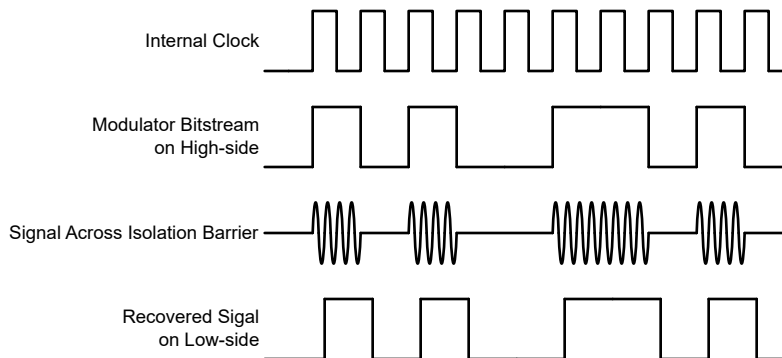

**Figure 7-1. OOK-Based Modulation Scheme**
The AMC1301-Q1 uses an on-off keying (OOK) modulation scheme, as shown in Figure 7-1, to transmit the modulator output bitstream across the SiO2-based isolation barrier. The transmit driver (TX) shown in the Functional Block Diagram transmits an internally generated, high-frequency carrier across the isolation barrier to represent a digital *one* and does not send a signal to represent a digital *zero*. The nominal frequency of the carrier used inside the AMC1301-Q1 is 480 MHz.